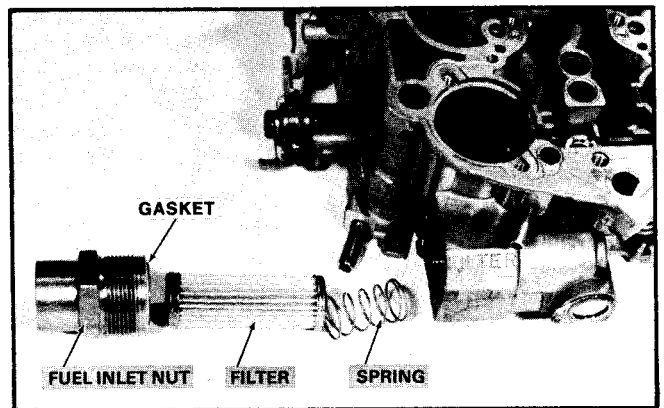

Figure 60 Fuel Filter Assembly - Typical
2. Remove fuel inlet nut, gasket, filter assembly and spring (Figure 60). Some models use a fuel strainer in place of a filter and spring. Consult the parts list for each model for proper parts application.